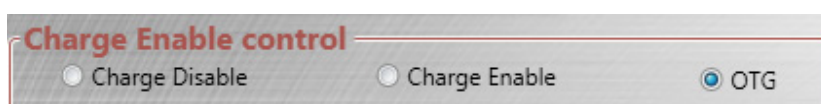

Figure 20: Selecting On-the-Go (OTG) Mode
4. Pull JP3 high, and select OTG in the menu (see Figure 20).